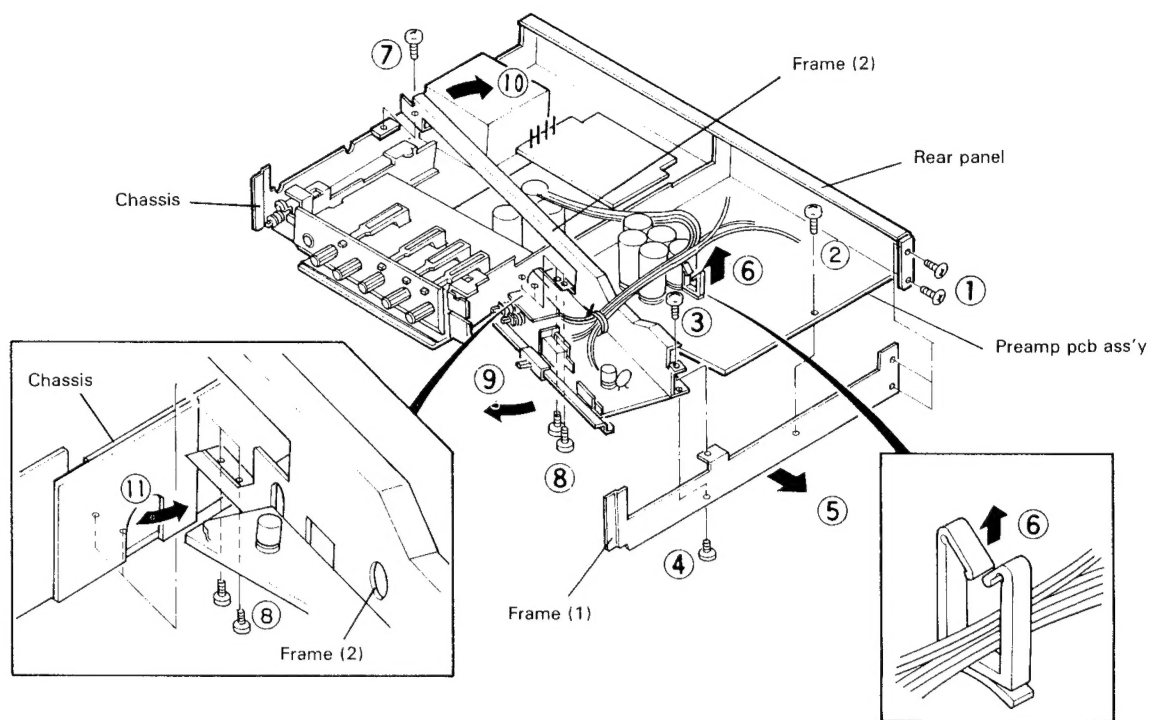

Fig. 6 How to remove switch pcb ass'y
3. Remove the screws from the right side of the rear panel. (Fig. 6-①)
4. Remove the screw, on the preamp unit, from the frame (1). (Fig. 6-②)
5. Remove the screws from the frame (1) and (2). (Fig. 6-③, ④)
6. Remove the frame (1). (Fig. 6-⑤)
7. Remove the leads from wire clamber. (Fig. 6-⑥)
8. Remove the screw from the frame (2). (Fig. 6-⑦)
9. Remove the 2 screws on the bottom plate, from the frame (2). (Fig. 6-⑧)
10. Slide the frame (2) rightward and turn 30° clockwise.
**Note:** When removing the preamp pcb ass'y, be careful not to damage it by the projections of frame (2).